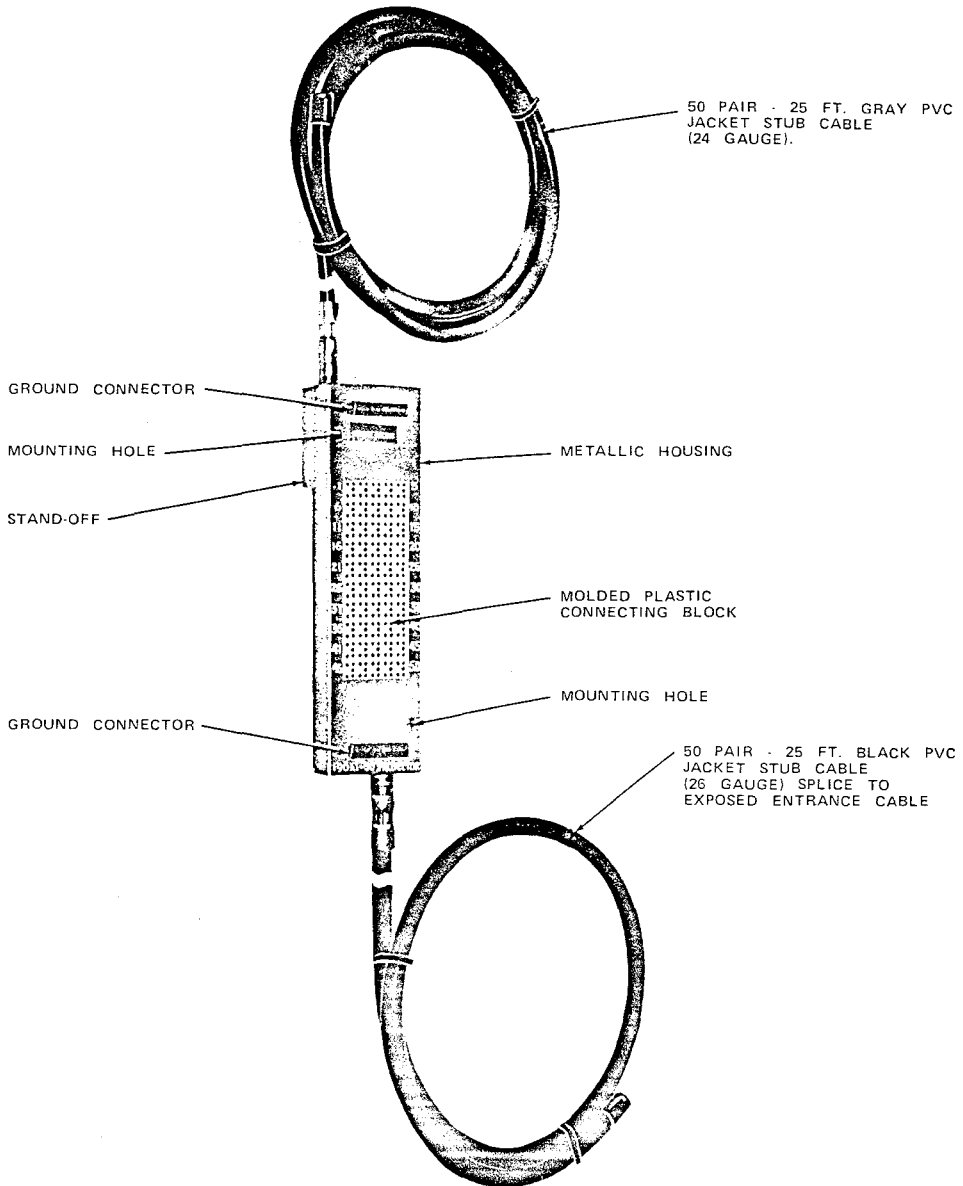

Fig. 1—190A1-50 Protector
2.01 The 190-type protector (Fig. 1 and 2) consists of a metal housing containing a fire retardant molded plastic connecting block, a 26-gauge stub cable which serves as a fusible link, a 24-gauge terminating stub cable, and two connectors for external ground connections. *The 190-type protector is not gastight. If a plug is required, place the plug in the entrance cable and not in either stub cable.*